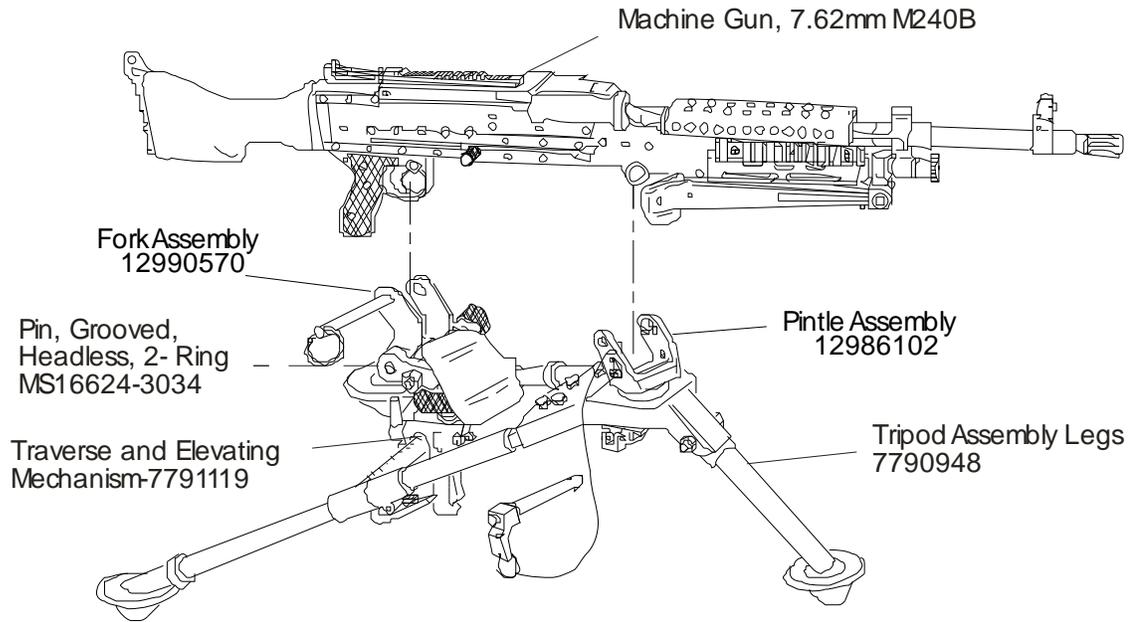

Figure 3
15. **MATERIEL CHANGE (MC) NUMBER.** This MWO is authorized by MCN 1-00-05-0001. This MCN is the same one used in MWO 9-1005-245-20-2, which has been superseded by this MWO.
16. **MODIFICATION IDENTIFICATION.** The M122A1 MG Tripod consists of a pintle assembly, PN 12986102 and a fork assembly, PN 12990570 with the following parts from the M122 MG Tripod Mount: traversing and elevating mechanism, PN 7791119; leg assembly, PN 7790948; grooved headless pin, PN 7792993; and the two retaining rings, PN MS16624-3043. See Figure 3 below for illustration of tripod after completion of this MWO.